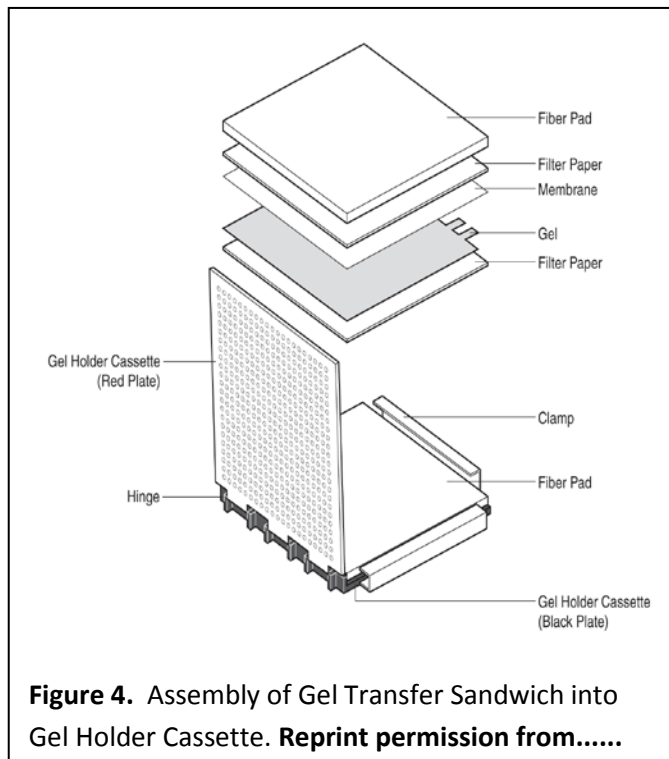

Figure 4. Assembly of Gel Transfer Sandwich into Gel Holder Cassette. **Reprint permission from.....**
1. The gel run by your bench will be assembled into a transfer sandwich, so that the proteins can be transferred to a sheet of nitrocellulose membrane for immunoblotting in the next lab period. Strips of this resulting blot will be given to each lab group for immunoblotting in the next lab. To prepare the gel for the transfer, it must be sandwiched between a sheet of nitrocellulose membrane and filter paper on one side and two sheets of filter paper on the other (**See Figure 4**). The filter paper and nitrocellulose membrane must be wetted in Western transfer buffer before they are assembled into the sandwich. Do